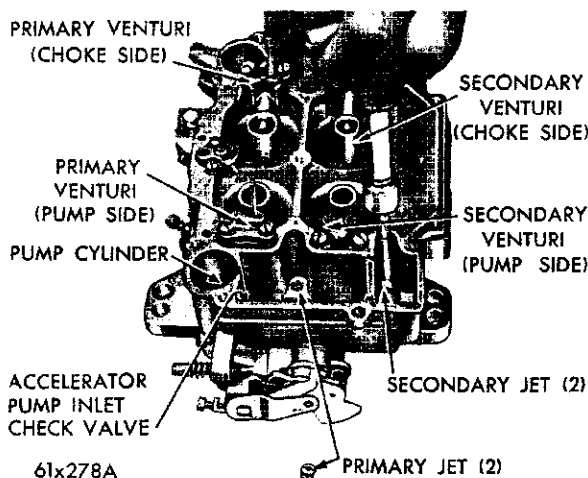

Fig. 4—Removing the Main Metering Jets
(2) Using Tool T109-57 ($\frac{5}{16}$ " Bit) remove the main metering jets (primary side), as shown in Figure 4.
(3) Using Tool T-109-58, remove the main metering jets (secondary side), as shown in Figure 4.
(6) Install the primary and secondary main metering jets, using Tool T109-58. (See Fig. 4.) Tighten jets securely.
(7) Install the accelerator pump intake check ball assembly in position in the carburetor bowl. Tighten securely, using Tool T109-59.